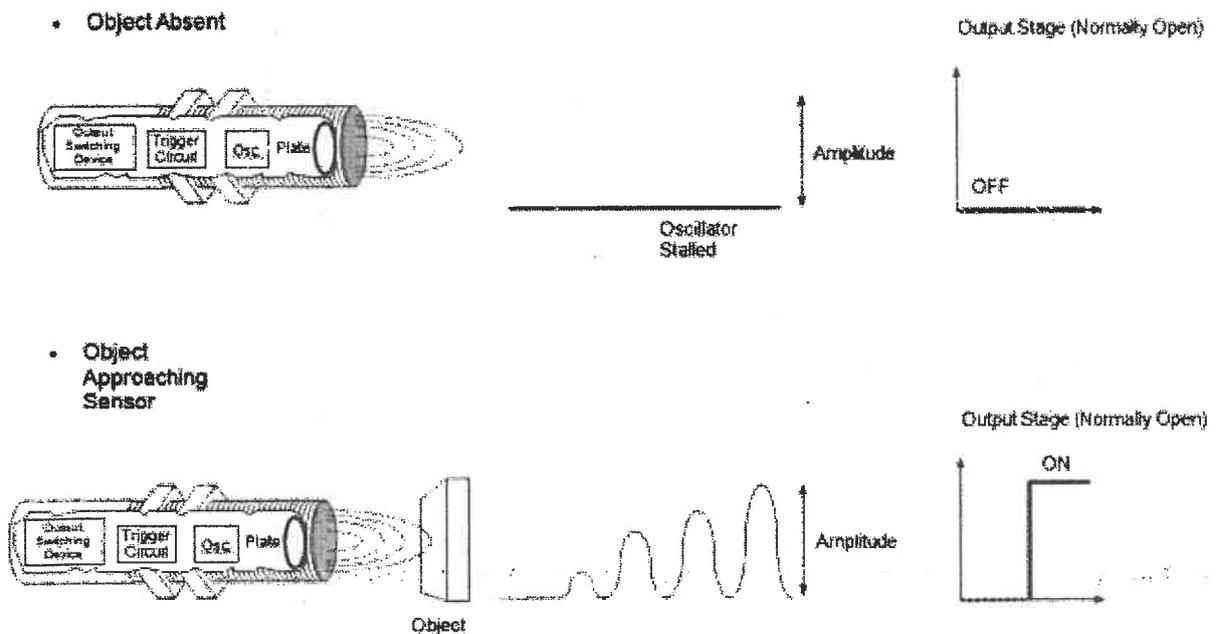

Figure 2
- (a) List **FIVE (5)** advantages of proximity sensor. (5 marks)
- (b) List **THREE (3)** advantages of thru beam sensor. (3 marks)
- (c) List **TWO (2)** advantages of diffuse sensor. (2 marks)
- (e) Explain the operation of the capacitive proximity sensor in Figure 2. (6 marks)